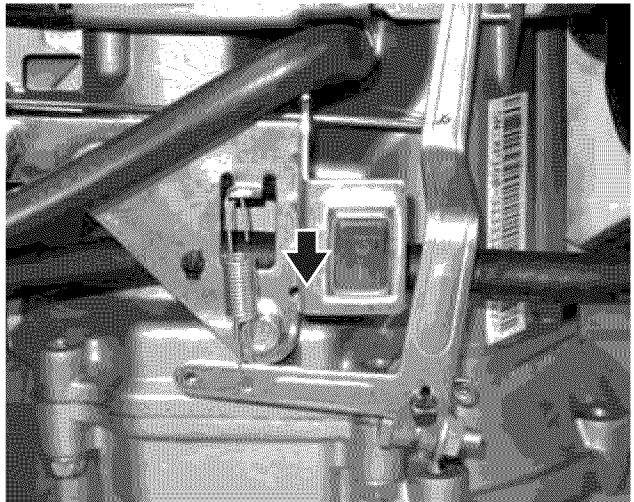

Figure 20 – Engine Stop Switch ON Position
4. Move the engine stop switch down to the ON (I) position (see *Figure 20*).